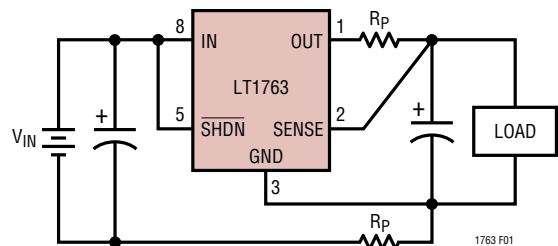

Figure 1. Kelvin Sense Connection
**SENSE (Pin 2):** Output Sense. For fixed voltage versions of the LT1763 (LT1763-2.5/LT1763-3/LT1763-3.3/LT1763-5), the SENSE pin is the input to the error amplifier. Optimum regulation will be obtained at the point where the SENSE pin is connected to the OUT pin of the regulator. In critical applications, small voltage drops are caused by the resistance ( $R_P$ ) of PC traces between the regulator and the load. These may be eliminated by connecting the SENSE pin to the output at the load as shown in Figure 1 (Kelvin Sense Connection). Note that the voltage drop across the external PC traces will add to the dropout voltage of the regulator. The SENSE pin bias current is  $10\mu A$  at the nominal rated output voltage. The SENSE pin can be pulled below ground (as in a dual supply system where the regulator load is returned to a negative supply) and still allow the device to start and operate.